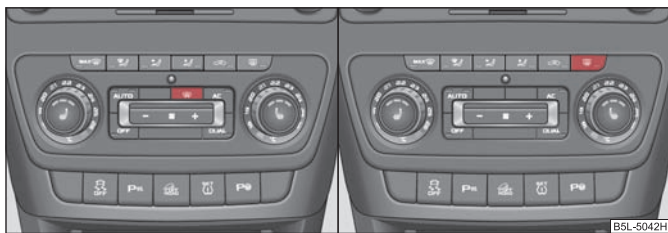

Fig. 48 Switch for windscreen heater / switch for rear window heater
- You can switch the windscreen heater on or off by pressing the switch  ⇒ fig. 48
- You can switch the rear window heater on or off by pressing the switch  ⇒ fig. 48 - right, the indicator light in the switch comes on or goes out.